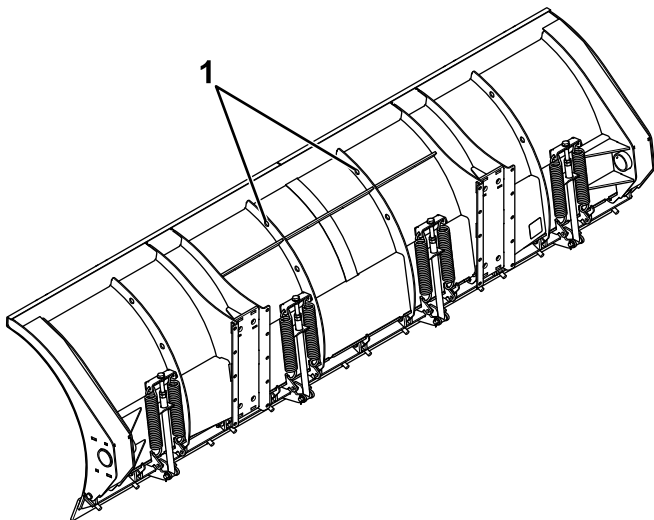

Figure 4
1. Using the lift points, stand the plow upright (Figure 4).